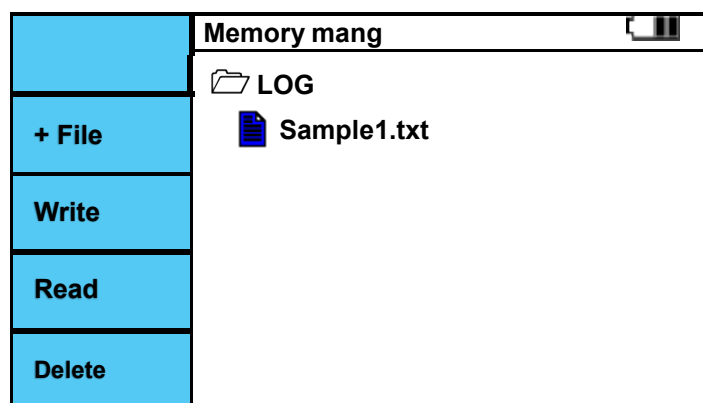

Figure 6.10.7 Adaptor/ Current Clamp Logging Create File.
Create a file name and press the  button. A file is generated as shown in Figure 6.10.7. The extension is automatically generated as *.txt.
- VI. If a file has been created, use the up and down buttons to select the file as shown in Figure 6.10.7.